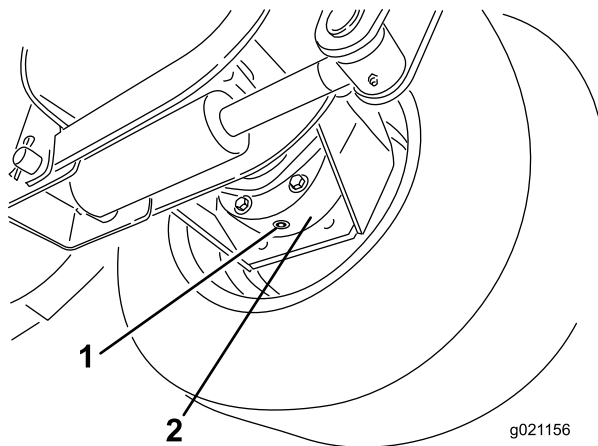

Figure 74
3. Place a drain pan under the brake housing, remove the drain plug, and allow the oil to drain (Figure 74).